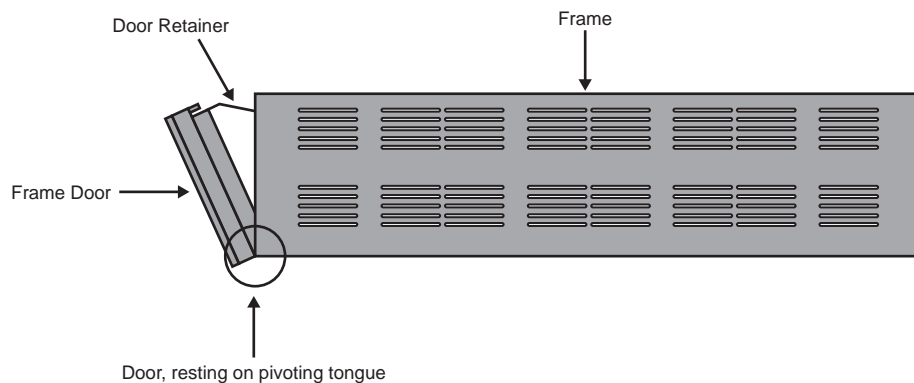

Figure 3.3 Frame Door Overview (MD Shown)
1. With both hands, grasp the sides of the frame door, and, ensuring that the door retainer is under the top of the frame, hook the grooved bottom edge over the pivoting tongue on the bottom front ledge of the frame (**Figure 3.3**).